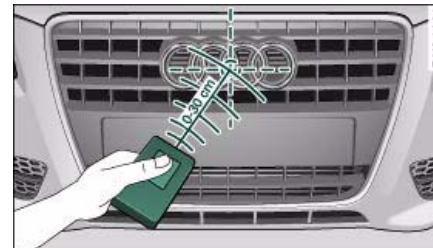

Fig. 198 Radiator grille ►
6. Hold the **original hand-held transmitter** at or near the centre of your car's radiator grille ⇒ *page 179, fig. 198*.
- Hold the **original hand-held transmitter** for the garage door opener or other device directly in front of the radiator grille of your vehicle (at or near the centre) ⇒ *page 179*, fig. 198. The exact distance depends on the system that you want to program.